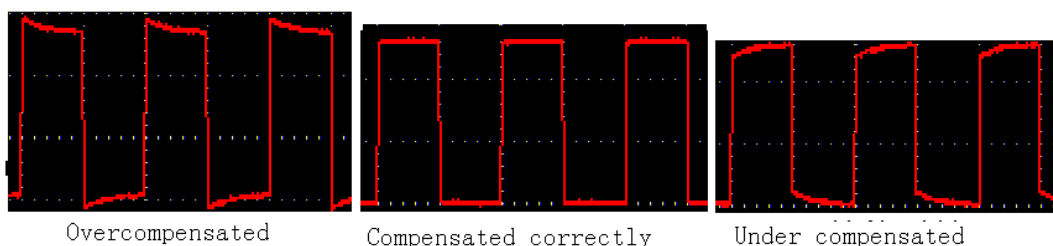

Fig. 5 Displayed Wave Forms of the Probe Compensation
2. Check the displayed wave forms and regulate the probe till a correct compensation is achieved (see Fig.5 and Fig. 5).